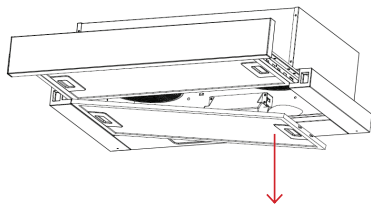

Figure 5
1. Remove the aluminium grease filters (Figure 5) from the underside of the rangehood.
- To remove the Aluminium grease filter, see Figure 5 on page 14.